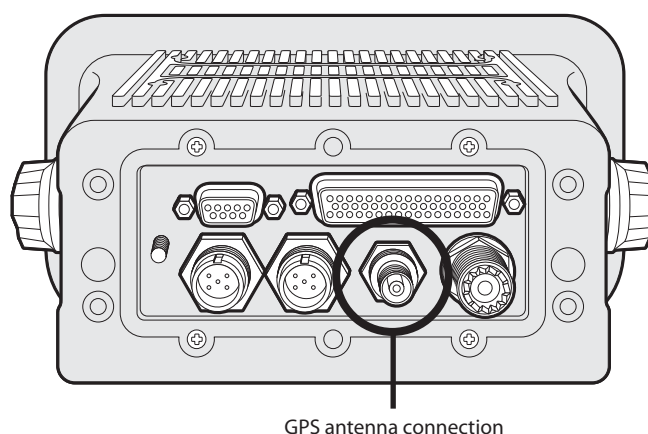

Figure 39 GPS antenna connection
- Connect the GPS antenna cable to the GPS connector on the AIS transceiver as shown in Figure 39.